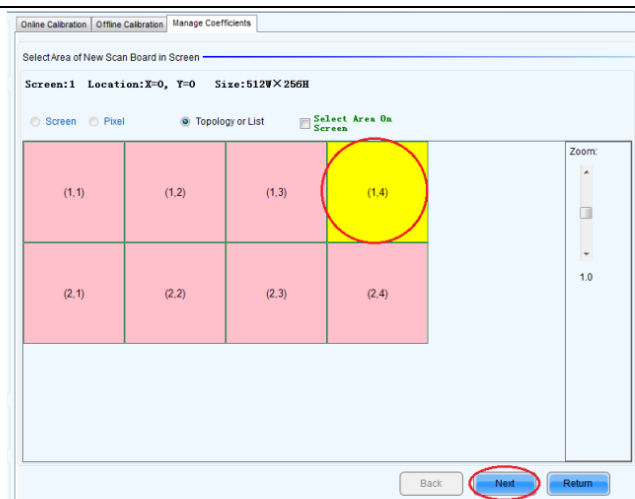

Figure 3-15 Selecting Area for New Receiving Card
- 1) As shown in Figure 3-15, select **Topology or List**. Select the position of the replaced receiving card. Click **Next**: